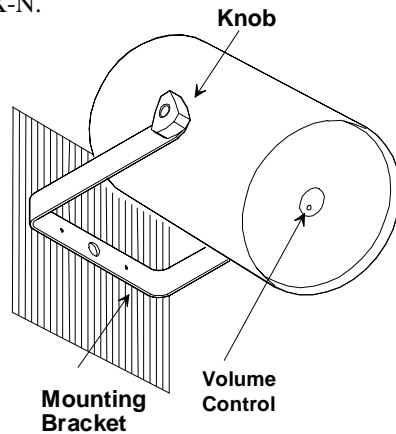

FIGURE 1
3. Attach knobs and position at the desired angle. Tighten knobs. (See Figure 1).